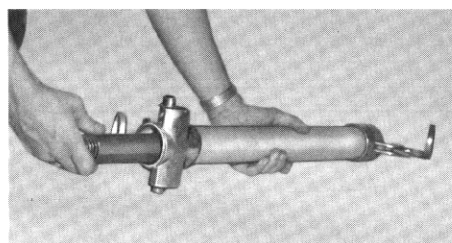

Figure 3
Step 3: Remove shunt and spring assembly (Fig. 3), and unscrew used refill.